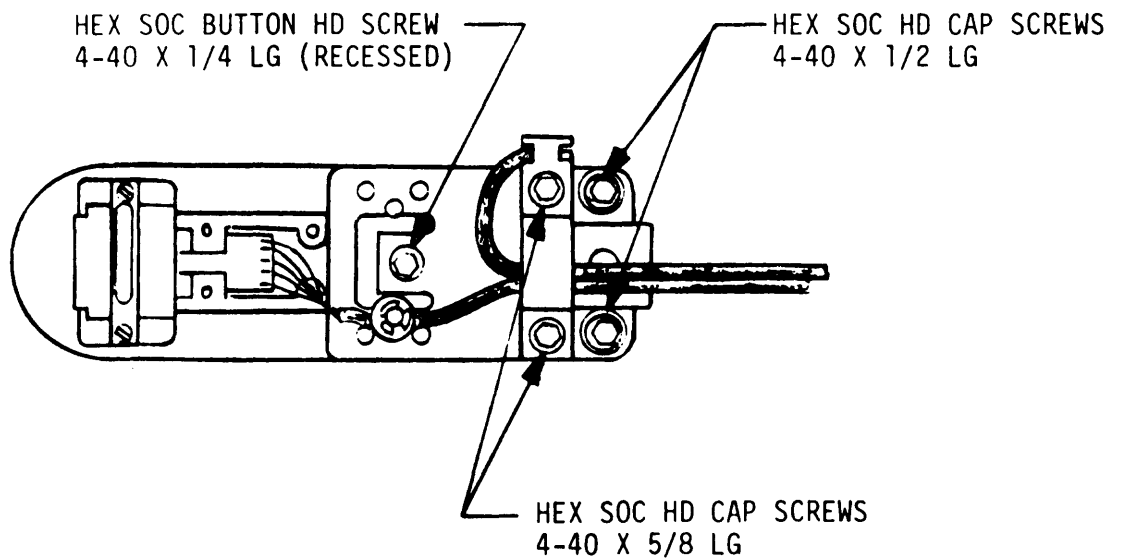

Figure 2-7A. Head Assembly Mounting Screws Side 2
- f. Loosen two 4-40 1/2 cap screws holding Side 1 head assembly to carriage. See Figure 2-7A.